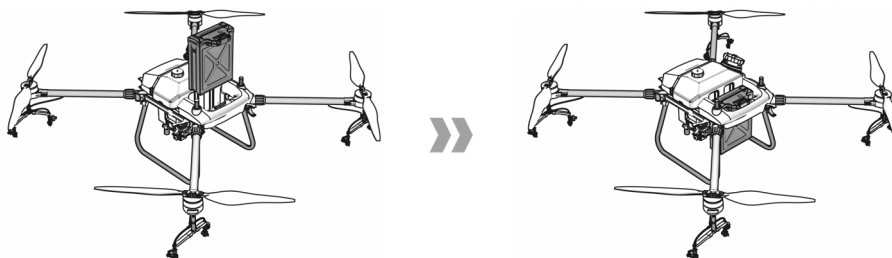

Figure 1-11 Install the battery
Step 1: Insert the power cable to the charger's power port. As shown in figure 1-11.